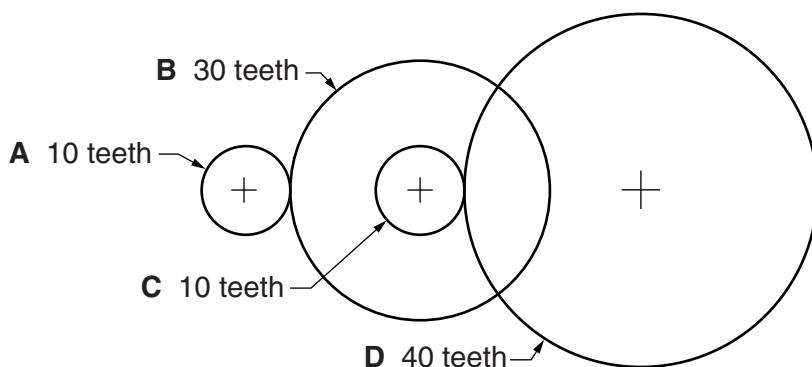

Fig. 3
- 5 Fig. 3 shows a gear train.
- (ii) Calculate the gear ratio of the compound gear train shown in Fig. 3. [3]